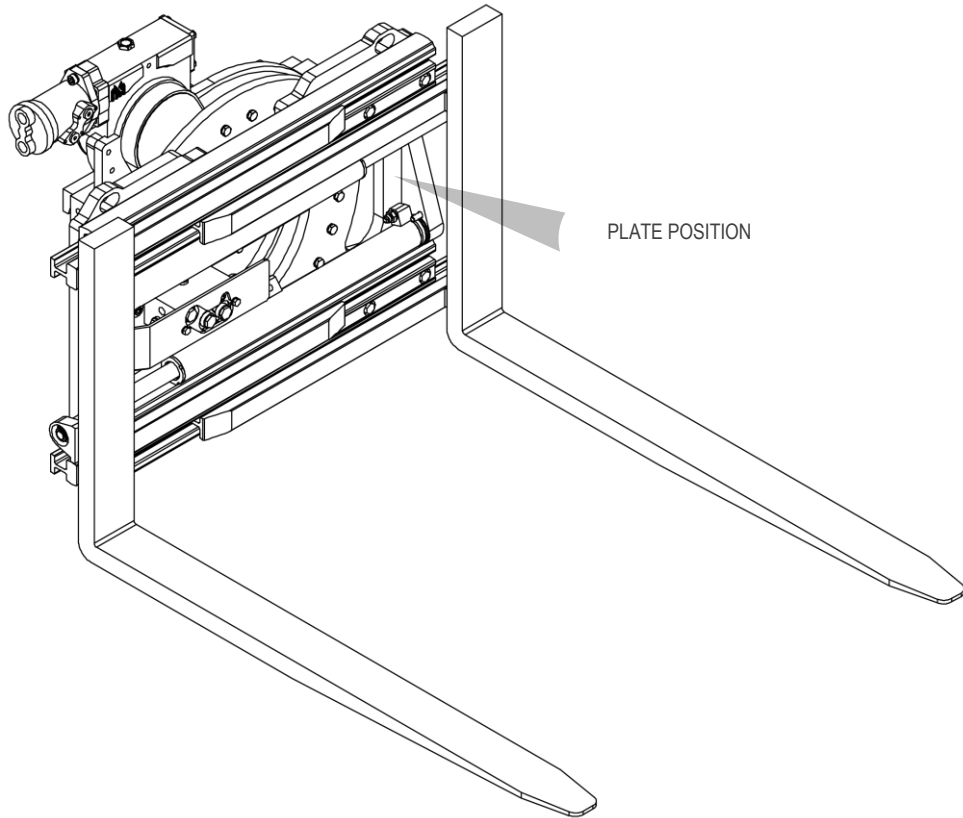

Figure 1
All the A.T.I.B. equipment - “GRIPPER ROTATING 360° WITH WELDED FORKS TYPE 301.474.170 | WITH ROTATING FORKS TYPE 301.474.150 | WITH 4 FORKS TYPE 301.474.4” are identified by means of an adhesive plate (see *Table 1*) located on the equipment (the location of the rating plate may vary depending on the equipment, see *Figure 1*). Always refer to the serial number.
5. For handling, use straps or chains suitably sized in relation to the weight of the equipment as indicated on the plate (see *Figure 1* and *Table 1* on page 6).
10. Connect the hydraulic circuit, ensuring that the operating pressure of the lines is greater than or equal to that indicated on the rating plate (see *Figure 1* and *Table 1* on page 6).
6. For handling, use straps or chains that are suitably sized in relation to the weight of the equipment as indicated on the plate (see *Figure 1* and *Table 1* on page 6).